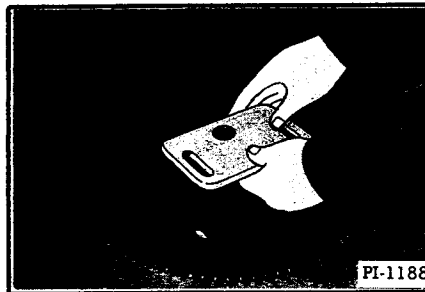

Fig. 93 Installing Outside Mounting Plate
9. Install the outside mounting plate (Figure 93).